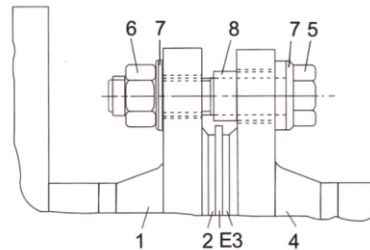

Figure 8-3 "Insulated" Bolt on a Cathodic Protection Pipeline E- Grounding Ring
- The flanges on both sides of the pipeline should be connected by a 16mm² copper wire bypassing the sensor. The connecting bolts passing through the flanges should be equipped with sleeves and washers made of insulating material to isolate the bolts from the flanges. See Figure 8-3.